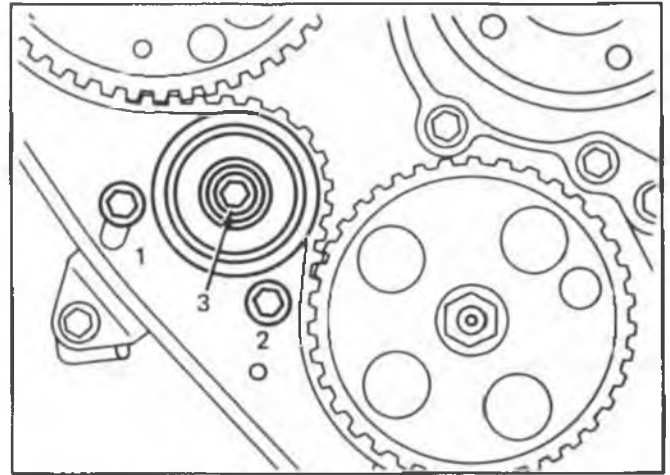

Fig. 4-32 Bolt Tightening Sequence
17. Loosen tensioner pulley and plate bolts. Concentrate looseness of belt on tensioner, then tighten bolts in numerical sequence as shown (Fig. 4-32).